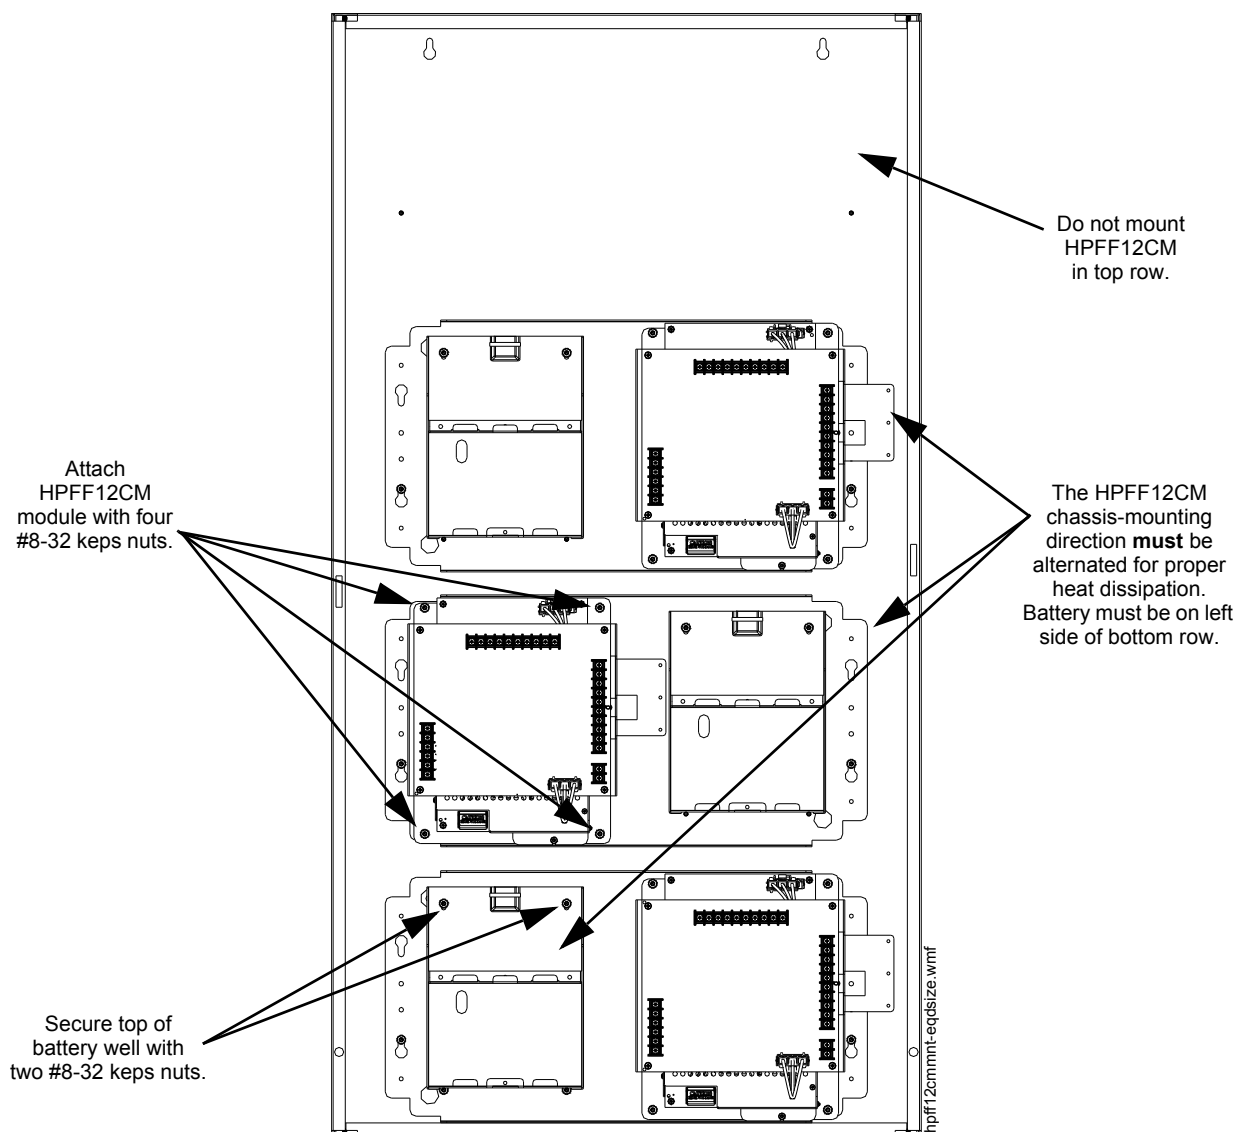

Figure 2.7 HPFF12CM: Chassis-Mounting in Backbox (EQBB-D4 Shown)
2. Alternate the mounting direction for HPFF12CM as shown in Figure 2.7. Battery must be on left side of bottom row.
4. Align HPFF12CM module with the backbox’s mounting studs; fasten securely using four #8-32 keps nuts as shown in Figure 2.7.
5. Install battery well by resting the bottom on top of the studs and securing the top with two #8-32 keps nuts as shown in Figure 2.7.